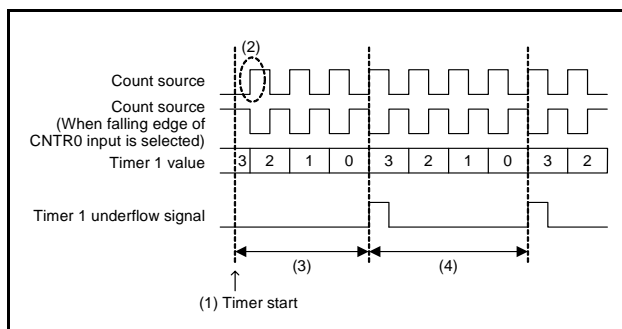

Fig 61. Timer count start timing and count time when operation starts
(18) Prescaler, timer 1, timer 2 and timer 3 count start timing and count time when operation starts
Count starts from the first rising edge of the count source (2) in Figure 61 after prescaler and timer operations start (1) in Figure 61.
Time to first underflow (3) in Figure 61 is shorter (for up to 1 period of the count source) than time among next underflow (4) in Figure 61 by the timing to start the timer and count source operations after count starts.